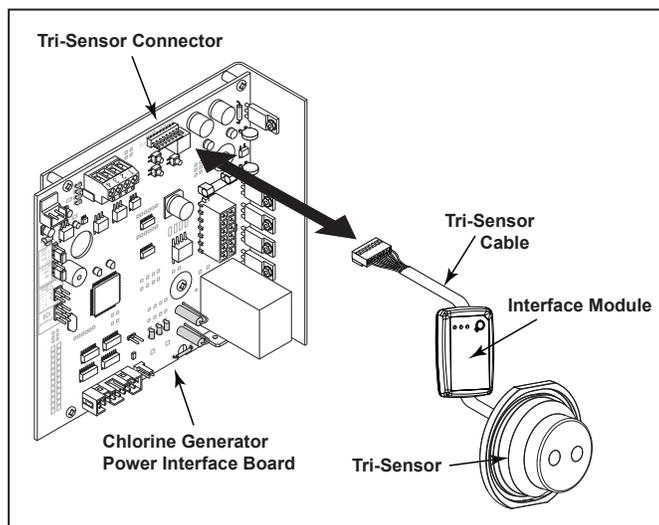
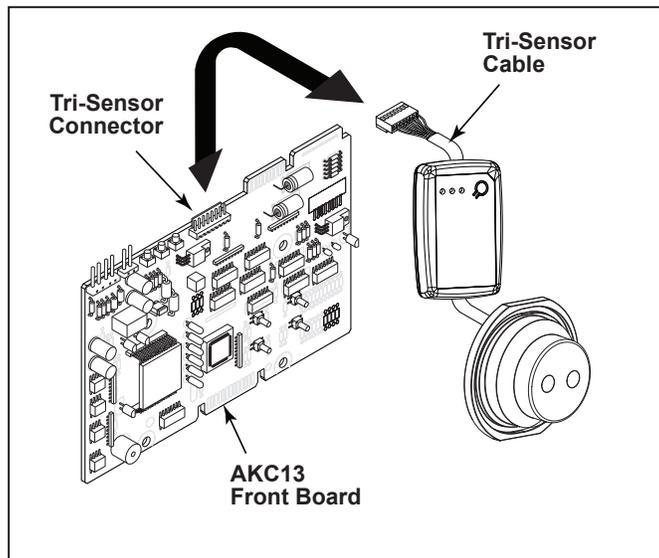

Figure 4. Installation on a Late Generation Power Interface Board. For Installation with an AKC13 Front Board, See Figure 5.
Figure 5. Tri-Sensor Installation on an AKC13 Front Board
5. Connect the female connector from the Tri-Sensor into the mating connector on the power interface board (Figure 4) or AKC Front Board (Figure 5).
3. For all other firmwares and AKC13 Front Boards (See Figure 5)"PGM B" should be lit before proceeding to section D: CONFIRMATION OPERATION. IF "PGM A" is lit, proceed to step 4.